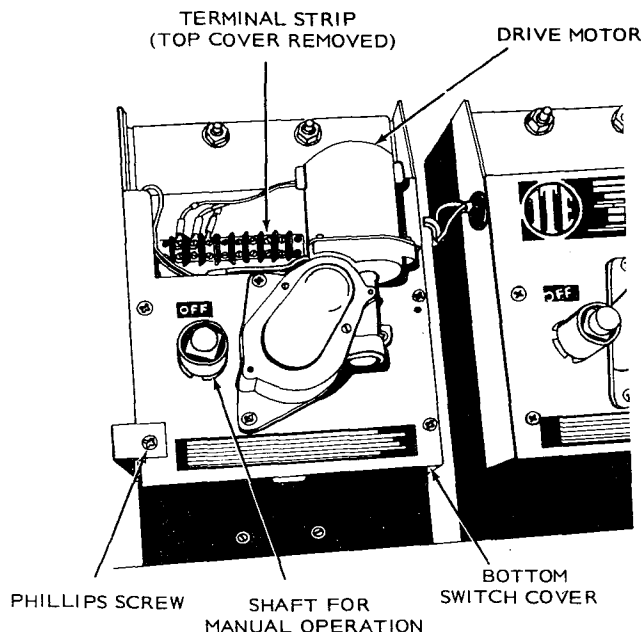

FIGURE 2-22. TRANSFER SWITCH WITH NAMEPLATE COVER REMOVED
9. Loosen the two top Phillip screws which hold the cover with the ITE nameplate. Slide cover up and off the transfer switch (Figure 2-22) to expose terminal block.
12. Remove the three Phillip screws while holding the motor and drive assembly. Pull assembly straight back and out (Figure 2-22).